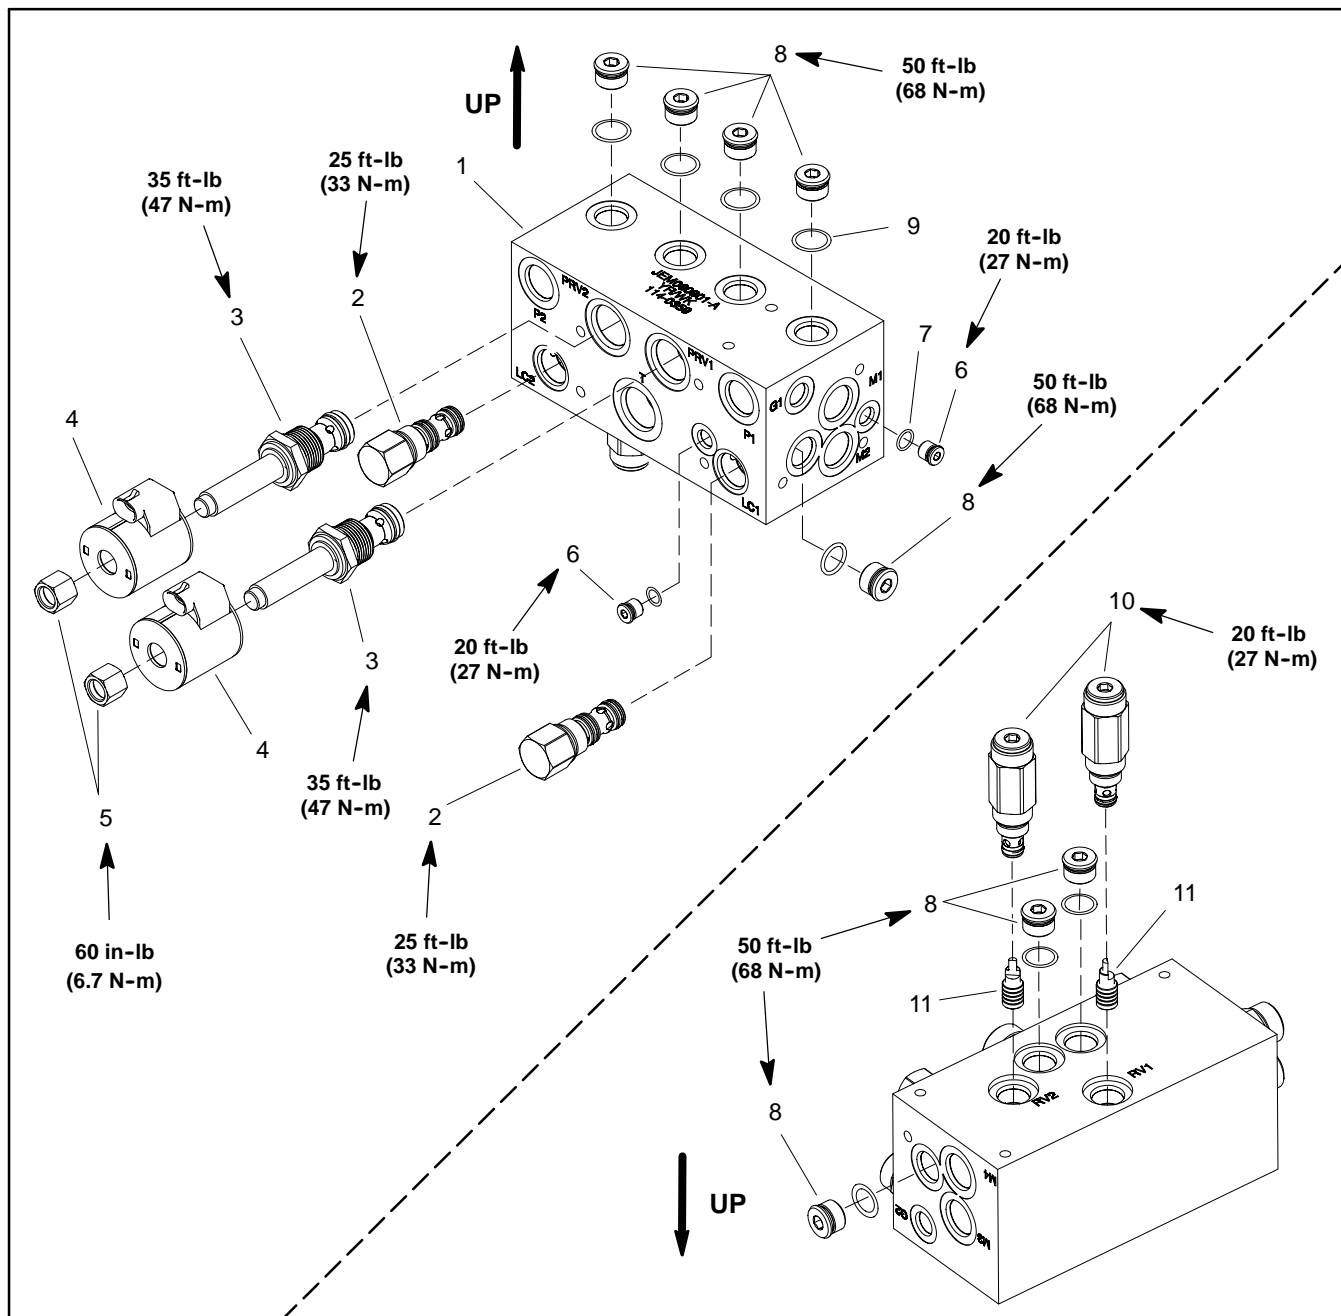

Figure 81
NOTE: The deck control manifold uses several zero leak plugs. These plugs have a tapered sealing surface on the plug head that is designed to resist vibration induced plug loosening. The zero leak plugs also have an O-ring to provide a secondary seal. If zero leak plug removal is necessary, lightly rap the plug head using a punch and hammer before using an allen wrench to remove the plug: the impact will allow plug removal with less chance of damage to the socket head of the plug. When installing plugs into the control manifold, torque plugs to the values identified in Figures 81.
- C. Torque cartridge valve using a deep well socket to values identified in Figure 81.